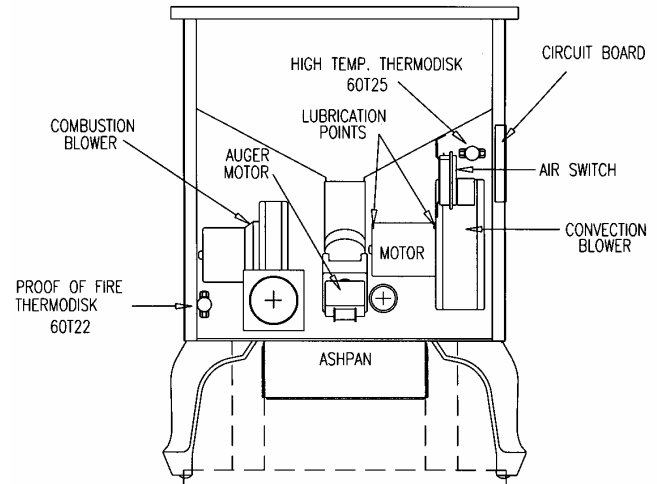

FIGURE 28a
- **Oiling** – Convection blower only. Manufacturer suggests oiling every 6 months. Refer to figure 28a & 29 for lubrication points. Use SAE 20W motor oil or turbine oil. Limit to one or two drops.